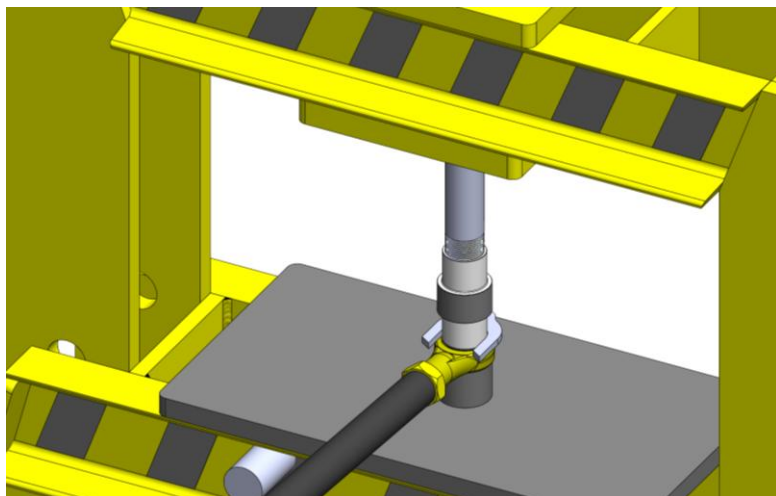

Figure 8: "C" Spacer located around bushing
- Locate the provided "C" spacer around the new bushing. Keep it's surface flat against the forging lip (Figure 8).